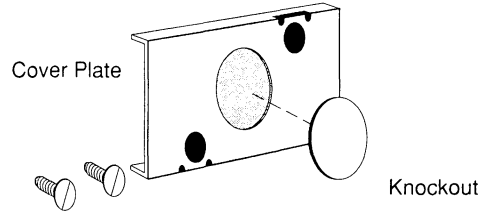

Figure-9 Cover Plate Knockout Removal.
1. Remove knockout from cover plate supplied with actuator. See Figure-9.
As shown in Figure-9, the hole in the cover plate of the actuator conduit housing is sized to accept both British standard M20 (20 mm) conduit connectors and 20 mm to PG16 adaptors for use with DIN PG16 connectors. (Follow steps for installing conduit box to actuator.)